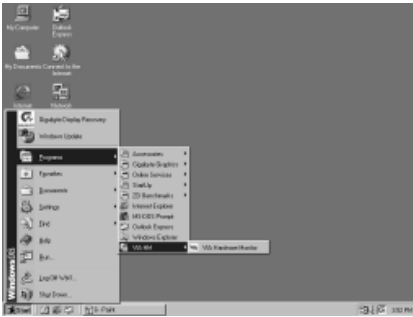

Figure 5
- The **“HardWare Doctor VHM2.02”** option will be added to the **“Program”** directory. Click **“VIA HM”** to access the program, the screen will appear Figure 5.